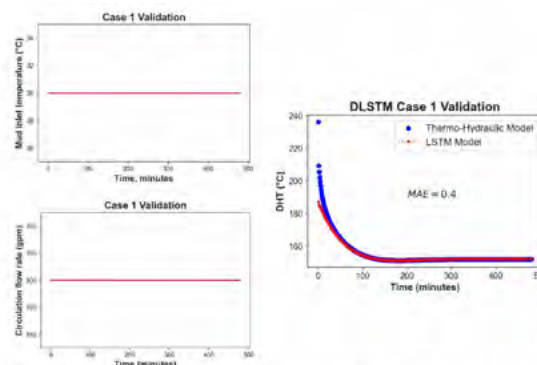

Figure 5—TM model first validation against the thermo-hydraulic model under continuous circulation.
- Shahdi et al. (2021): Analyzed bottom-hole temperature (BHT) data from 20,750 U.S. wells using XGBoost. The model generated continuous 2D temperature maps (see Figure 5), achieving $R^2 = 0.94$ and identifying high-potential zones in the Appalachian Basin.